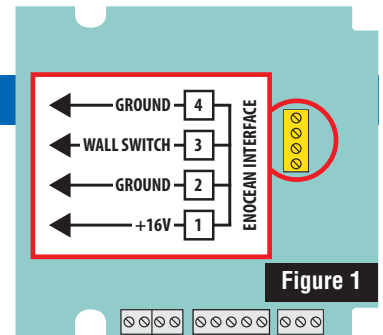

Figure 1
2. Loosen and remove the (6) face plate screws on the RS-360 receiver and carefully remove the receiver face plate. Disconnect power to the 12V battery.
3. On the receiver's printed circuit board (PCB), locate the four (4) pins labeled EnOcean Interface (see Figure 1).
- b. On the rocker pad, press the top button three (3) times quickly. Observe the HVAC setback unit LEDs light solid green for three (3) seconds.